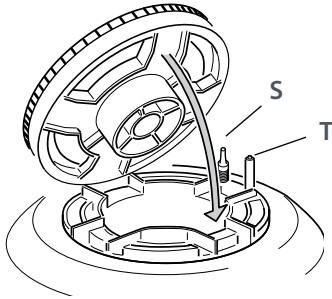
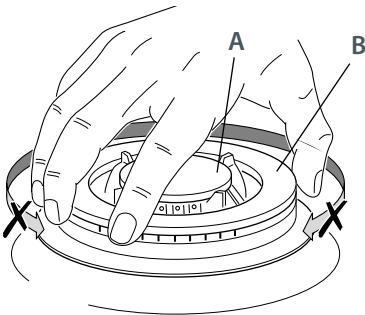

Fig. 11 Fitting the burner ring to the housing.
Fig. 12. Correct positioning of cap and ring
- 1 Fit the burner ring to the housing as shown by the arrow in fig. 11. Make sure the burner is not able to rotate (fig. 12)